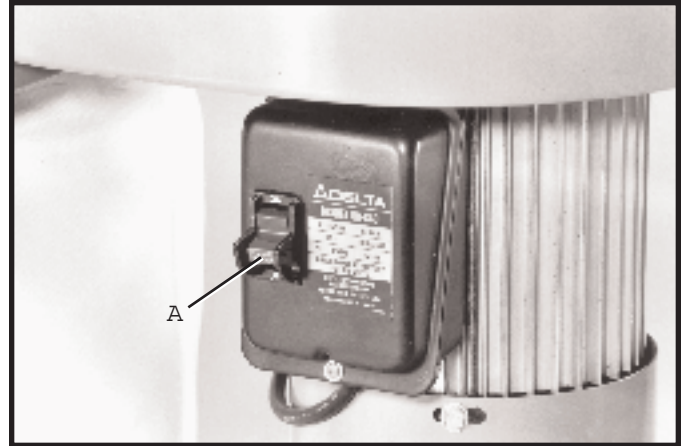

Fig. 20
The on/off switch is located on the side of the motor. To turn the dust collector ON, push switch toggle (A) Fig. 20, upward. To turn the dust collector OFF, push switch toggle (A) downward.